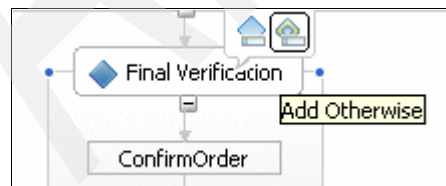

Figure 3-169 Add Otherwise context menu
3. Right-click **Final Verification** and select **Add Otherwise** (Figure 3-169).